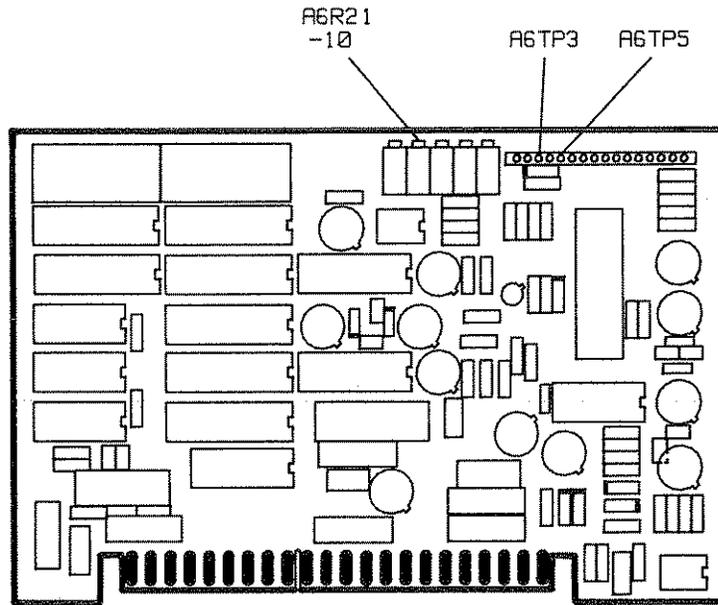

Figure 5-5. -10V Reference Adjustment Location
3. Adjust A6R21 (-10) for $-10.000 \pm 0.001V$. Refer to Figure 5-5.